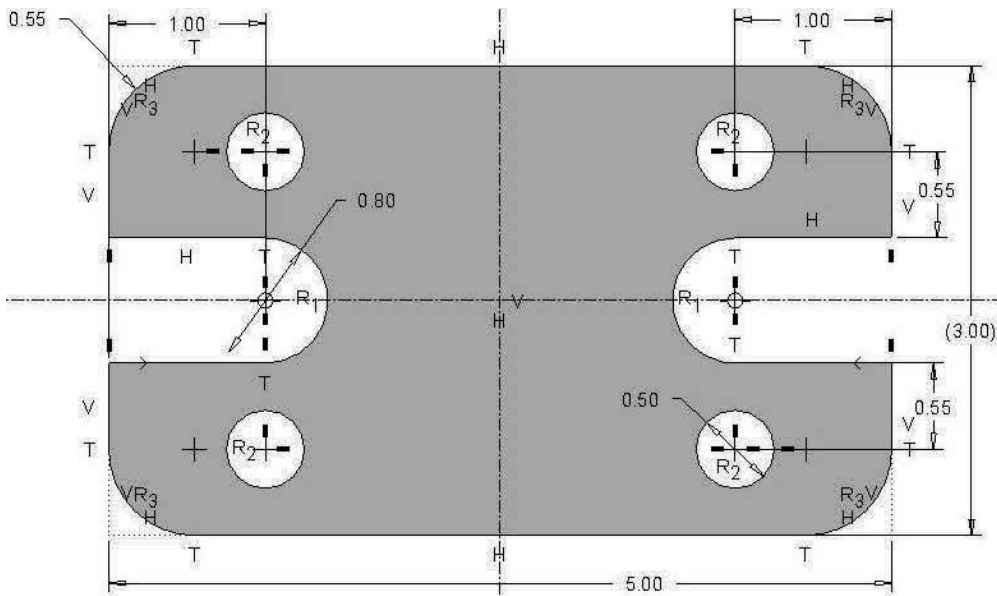

Figure 3-75 Problem 6
- 3.6 Draw the front view of "cover\_plate" (Figure 3-75). **Design Intent**—The plate is symmetric about its center in both directions. Why is the 3.00 dimension enclosed in parentheses?